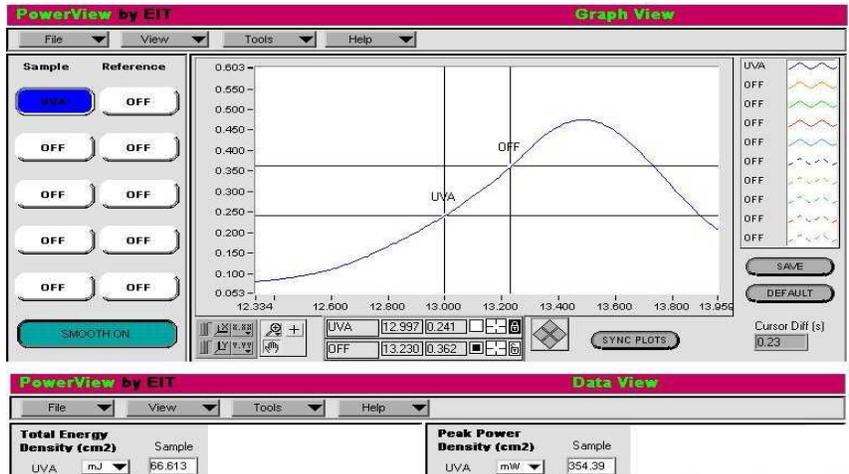
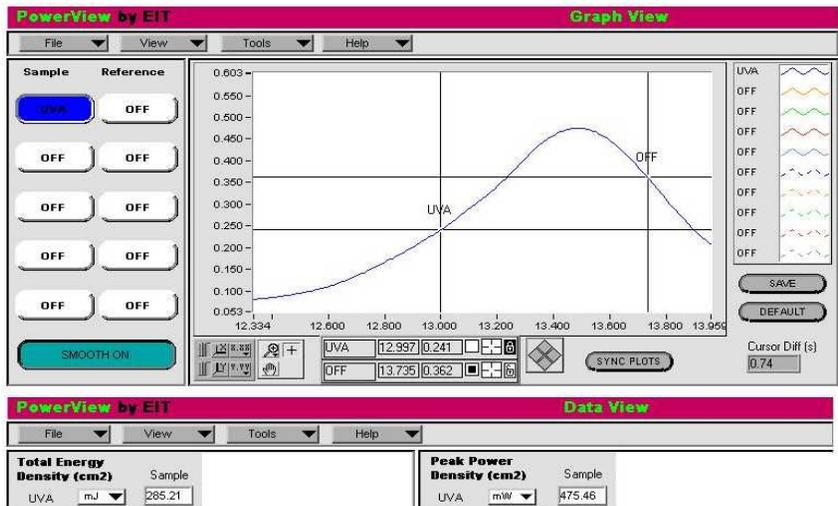

Figure 20. Cursor Measurement (Graph View and Data View)
Figure 21. Cursor Measurement (Cursors on either side of a peak)
Figure 20, on the next page, shows the UV(A) cursor locked to the sample UV(A) trace. The Reference traces are off, so the REF(X) cursor is labeled OFF. The Peak Power Density is at the OFF cursor, the highest point between the cursors. In Figure 21, the cursors are on either side of the peak. The Peak Power Density is no longer at the OFF cursor's position, but the Total Energy Density is still taken from between the cursors. The Peak Power Density is now the highest point on the trace.